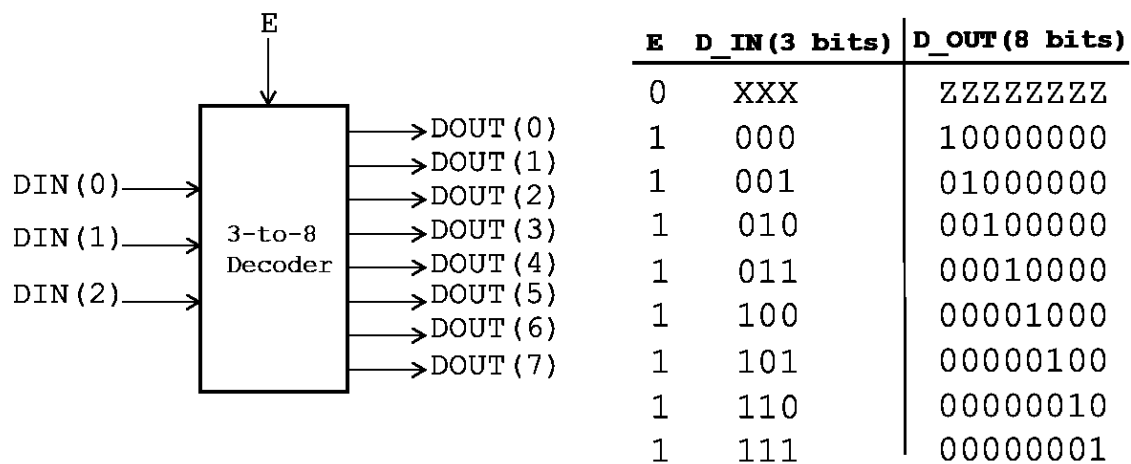

Figure 6-22
**Exercise:** Implement the 2-to-1 multiplexer which is depicted in Figure 6-22. Inputs and output are should be two bit wide. Only the select bit of the multiplexer is one bit. Use the schematic model of 2 to 1 multiplexer. Create “\*.bit” file, upload it to Nexys 4 DDR development kit and observe the results.